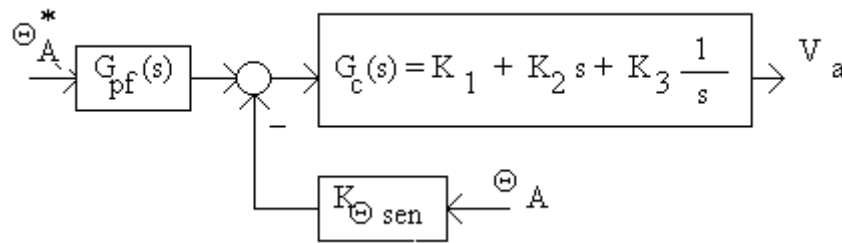

Fig. 4 PID compensator and a prefilter for the antenna position control system
3. Given a settling time $T_s \leq 1.2\text{sec}$ design the PID controller and the prefilter (fig. 4), using the ITAE criterion, (20 pts)